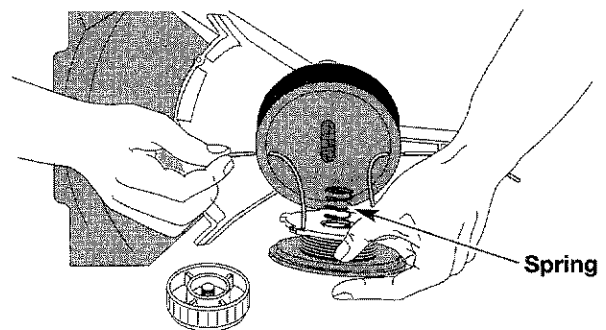

Fig. 39
- Insert the ends of the line through the eyelets in the outer spool and place inner reel with spring inside the outer spool (Fig. 39). Push the inner reel and outer spool together. While holding the inner reel and outer spool, grasp the ends and pull firmly to release the line from the holding slots in the reel.
5. Insert the ends of the line through the eyelets in the outer spool (Fig. 39, Pg. 18).